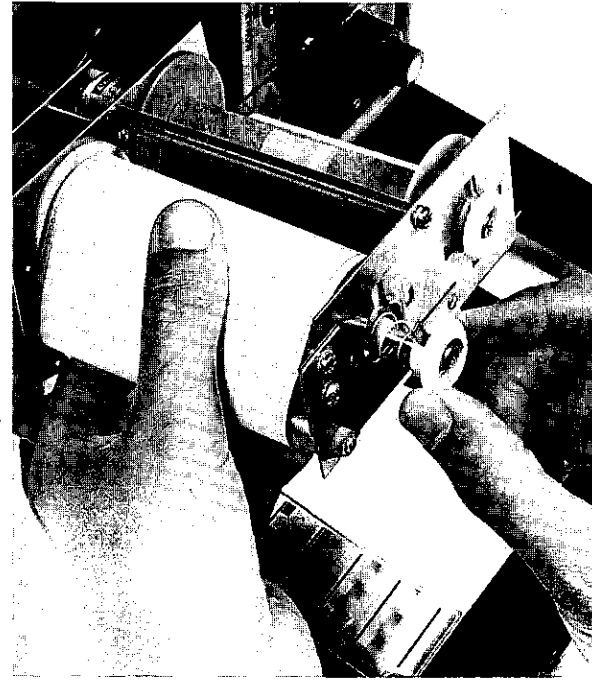

Fig. 26
5. To remove the full take-up roll, push in and rotate the left paper retainer knob until it snaps out. (See Figure 26.) The roll can now be easily removed from the paper spool end caps. (See Figure 27.)